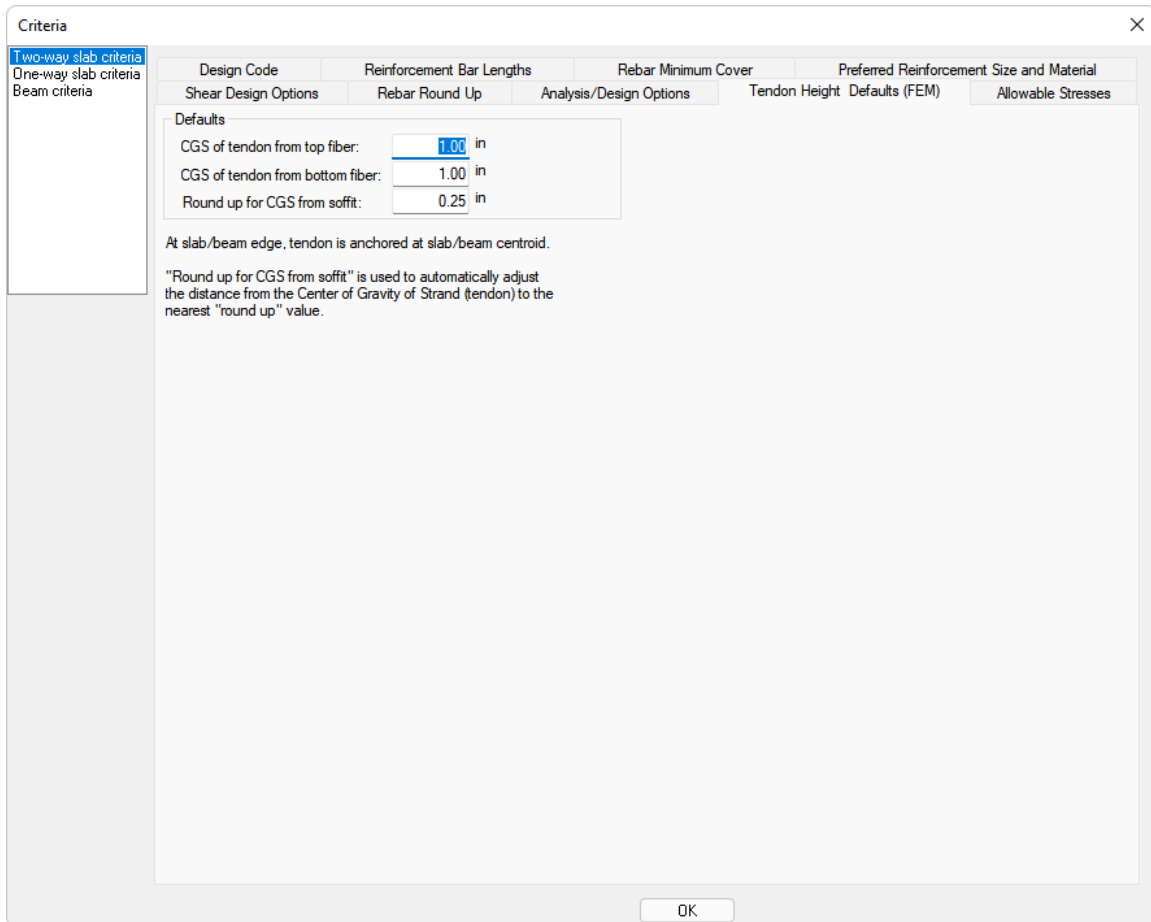

FIGURE 2-17
- Click on the **Tendon Height Defaults (FEM)** tab. This will open the window from **FIGURE 2-17**.